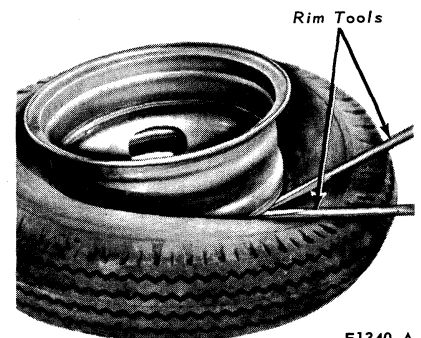

FIG. 10 Removing Tire From Rim
7. With one portion of the bead in the rim well, pry the opposite portion of the bead over the edge of the rim (Fig. 10) and remove the tire from the rim.